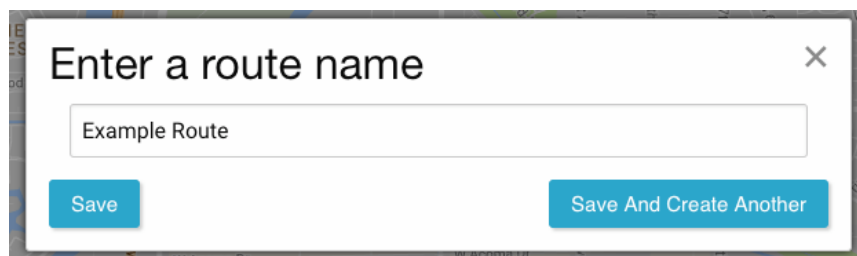

Figure 3.7 - Once the route is fully selected, click Save
3. Once all of the sensors for the route have been added, select *Save* (Figure 3.7)